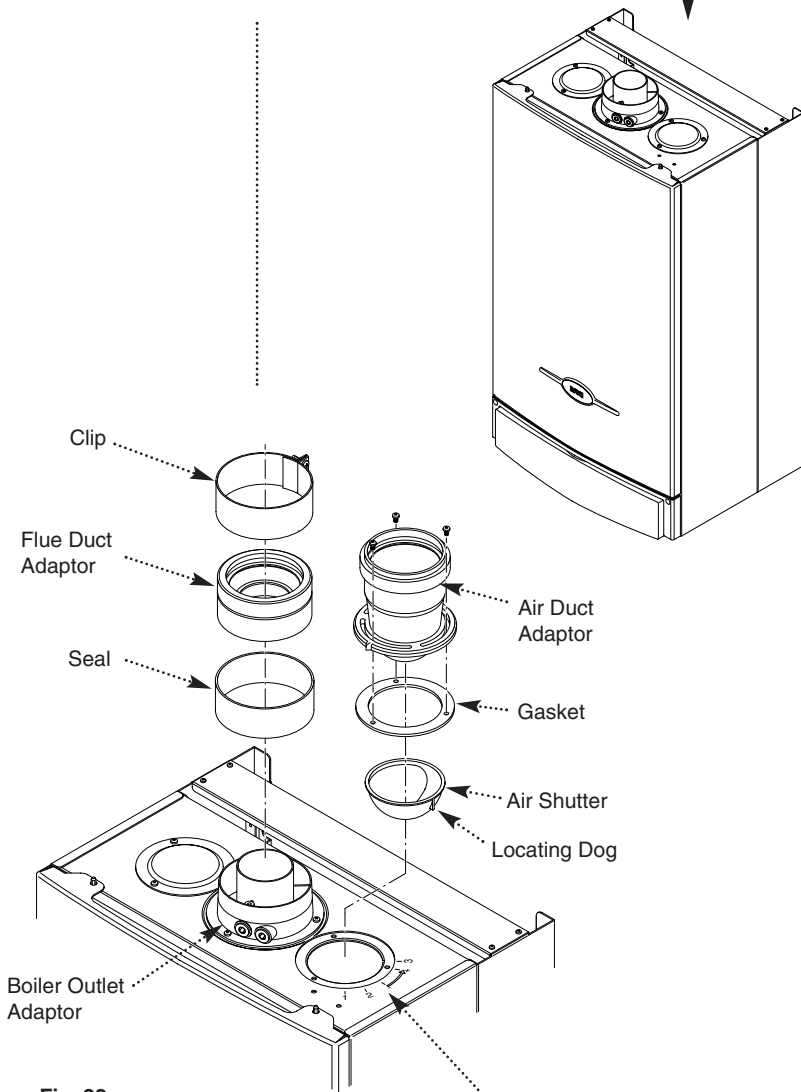

Fig. 22
3. Pass the seal over the flue duct adaptor. Engage the 60mm diameter end of the flue duct adaptor on the boiler outlet adaptor and slide the seal down so that it equally covers the joint (Fig. 22).
6. Insert the plastic air shutter into the hole in the top panel. Ensure that the locating dog on the shutter locates in the notch in the top panel (Figs. 22 & 22a).
7. Replace the gasket previously removed and fit the air duct adaptor, ensuring that the pointer on the adaptor aligns with the markings on the top panel (Fig. 22).